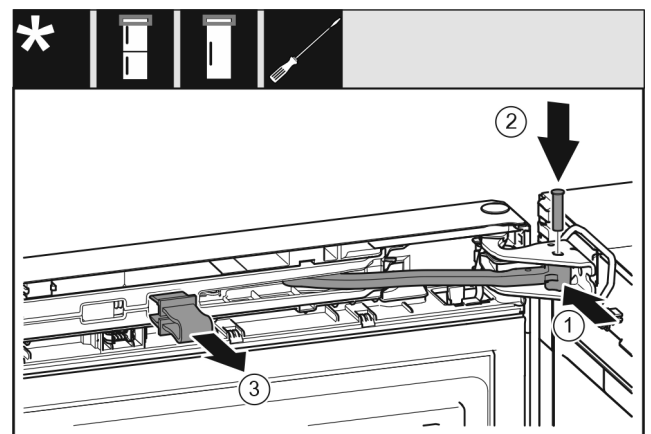

Fig. 20
- ▶ Turn the hinge in the bearing bracket. Fig. 20 (1)
- ▶ Insert the bolt in the bearing bracket and hinge. Make sure that the latching lug is sitting correctly in the groove. Fig. 20 (2)
- ▶ Remove the locking device. Fig. 20 (3)